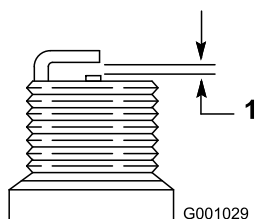

Figure 51
4. Set the gap between the electrodes on the spark plug at 0.030 inch (0.76 mm) (Figure 51).